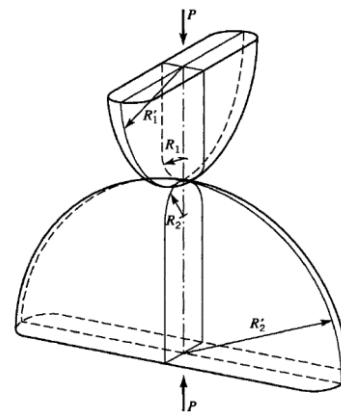

Fig .7
9. Two semicircular disks in Figure 7, be made of steel ($E_1 = E_2 = 200$ GPa and $\nu_1 = \nu_2 = 0.29$). The radii of curvature of the two surfaces at the point of contact are $R_1 = 60$ mm, $R'_1 = 130$ mm, $R_2 = 80$ mm, and $R'_2 = 200$ mm. The angle α between the planes of minimum curvature is $\alpha/3$ rad. If the load $P = 4.50$ kN, determine the maximum principal stress, maximum shear stress, and maximum octahedral shear stress in the disks and state the location of the point where each of these stresses occur. Determine the approach δ for the two disks because of load P .